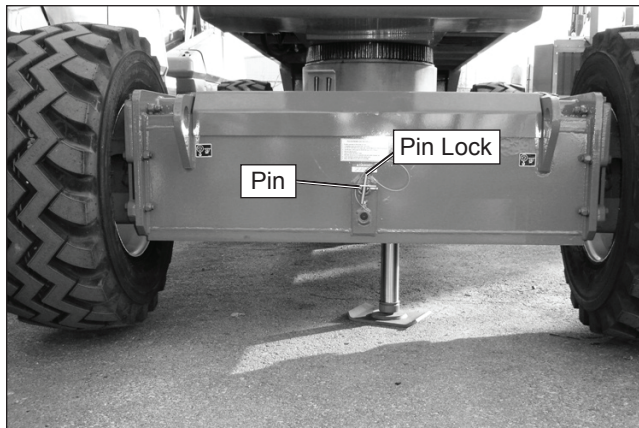

Figure 8.3 – Rear of Chassis
3. Remove the pin lock and pin (refer to Figure 8.3) from the upper hole in the chassis.
4. Hold the axle lever (refer to Figure 8.3) in the extend position until the axles stop extending.